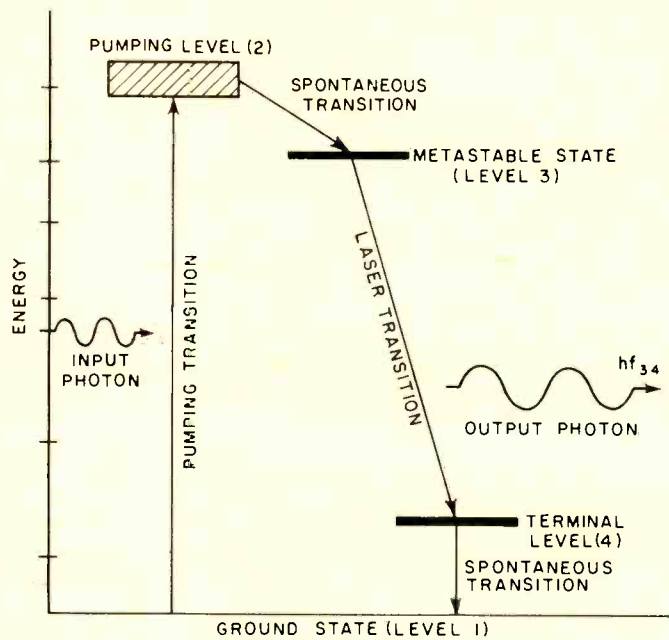

Fig. 7. Operation of four-level system as in gaseous laser.
To understand the operation of the helium-neon gas laser, a different means of obtaining population inversion as well as of pumping must be considered. The modification of the energy-level scheme is shown in Fig. 7. Note that a fourth or terminal level has been added above the ground state. The population inversion is now obtained between the (3) and (4) levels. The advantage of the four-level scheme is that the initial population of the terminal level is negligible compared to the ground state and therefore inversion is more easily obtained (i.e., less atoms in the (3) state are necessary for its population to exceed that of the (4) state than that of the ground level). This reduces the pumping power required and opens up the possibility of pumping by a different method, called *electron-collision pumping*.